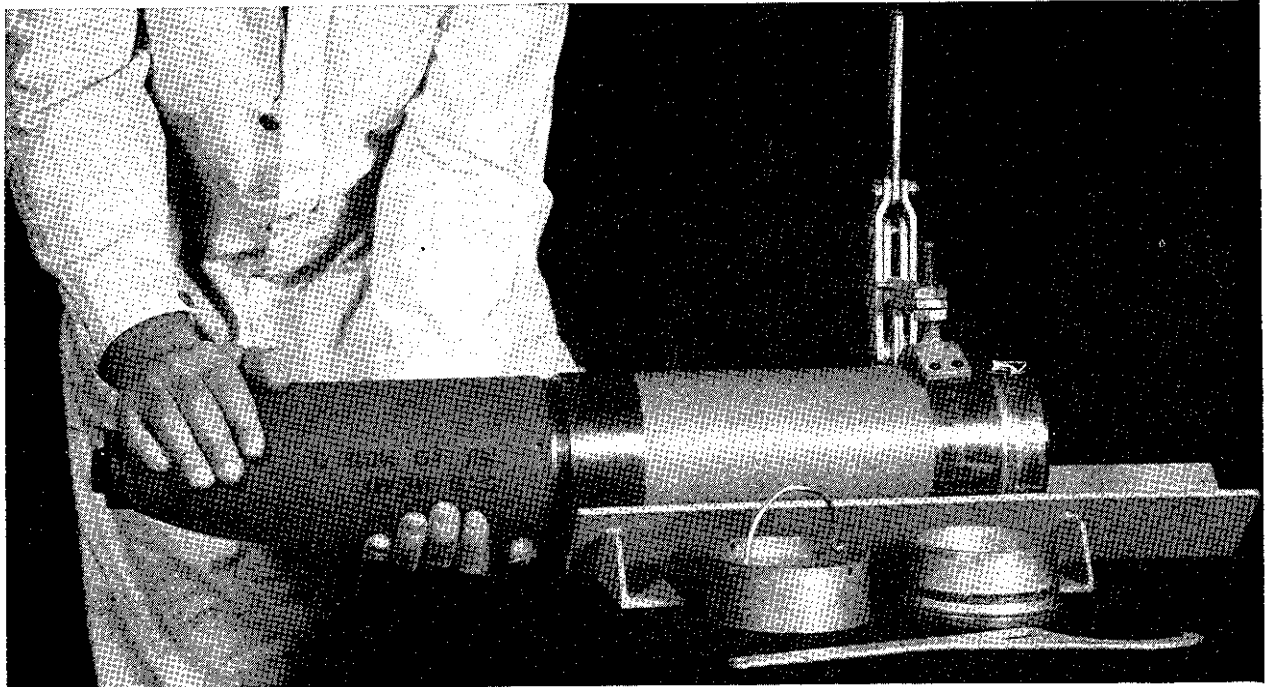

Figure 15.—Use of Assembly Kit Mk 2 Mod 0 in Threading of Head to Motor by Hand.
Vise Mk 2 Mod 0 is used to hold the motor during assembly or disassembly. The vise is of the quick-acting toggle clamp type, and is shown in figure 15. It should be bolted to a bench or table during use.
7. Place the head on the vise and start the threading operation by hand as shown in figure 15. If the threads bind, turn the head in reverse until the threads are properly aligned. The head should turn easily into the motor if the threads are clean and in proper condition.